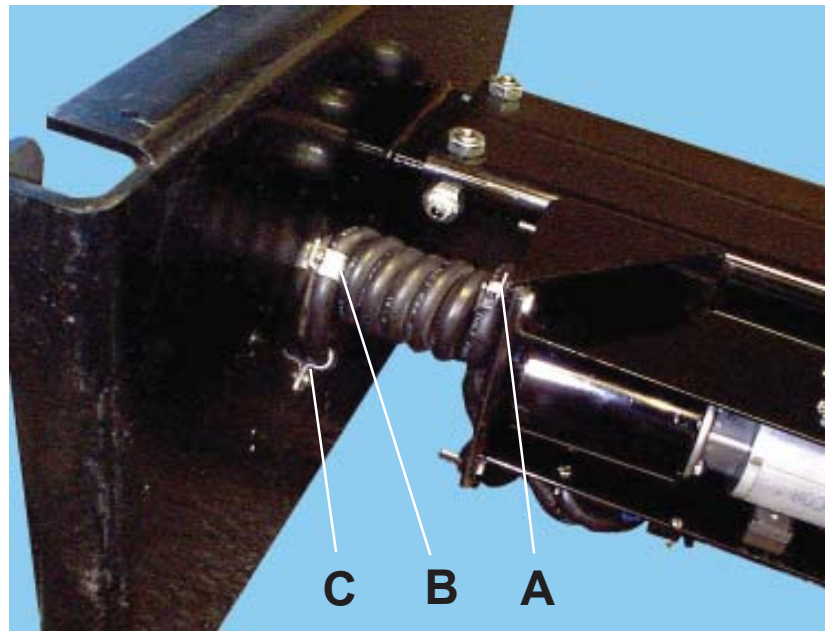

Figure 51. Retractable Cord Cable Clamps
5. With two 7/16-in. wrenches, remove the screw and nut that holds the cable clamp to the actuator bracket at **A** (Figure 51).
1. Slip one end of the new retractile cable into the hole at **C** and down through the floor of the base (Figure 51). **Note:** The ends of the retractile cable are identical.